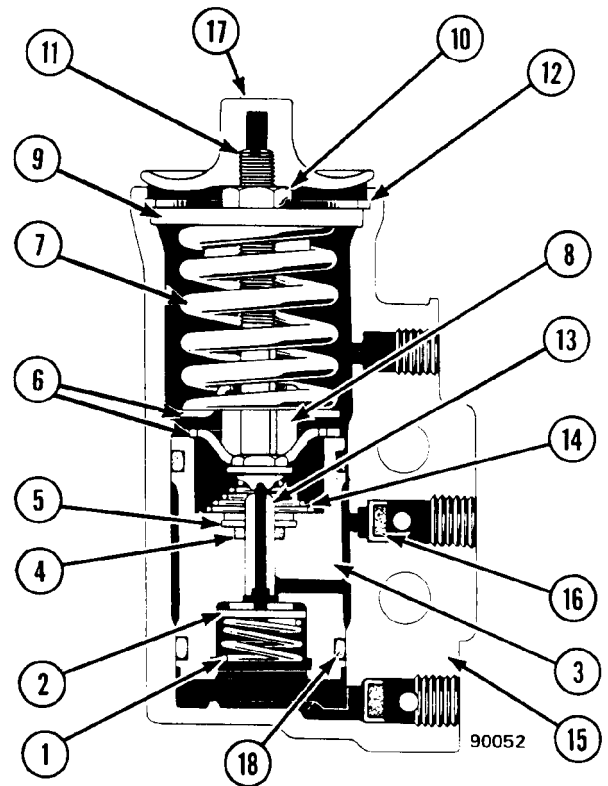

FIGURE 3-2. AIR GOVERNOR
1. Loosen and remove top cover (17, Figure 3-2).
2. Remove the spring assembly retaining ring (12) and lift out spring assembly.
3. Remove locknut (10) and upper spring guide (9) from adjusting screw (11).
4. Remove pressure setting spring (7), spring guide (6) and spring guide (8) from adjusting screw.
5. Remove the exhaust stem (13) and its spring (14) from top of piston (3).
1. Install exhaust stem grommet (4, Figure 3-2) in stem bore of piston (3).
3. Install the inlet valve spring (1) with its narrow end against the valve (2). Press down on spring until the large coil end snaps into the groove inside the piston.
4. Place exhaust stem spring (14) over the exhaust stem (13) and carefully press the stem into the stem bore of the piston. Make sure exhaust stem moves up and down freely.
5. Install O-rings (18) in grooves of the piston and install piston in body with largest bore of piston facing up.
6. Install lower spring guide (6), spring guide (8), pressure setting spring (7) and upper spring seat (9) on adjusting screw with locknut (10). Tighten the upper spring seat down until the dimension from top of seat to bottom of the stem head is approximately 1.88 in. (48 mm).
7. With exhaust stem (13) and spring (14) in place, install adjusting screw and spring assembly in the governor body.
8. Install retaining ring (12) to secure adjusting screw and spring assembly.
9. Install top cover (17) and new filters (16).